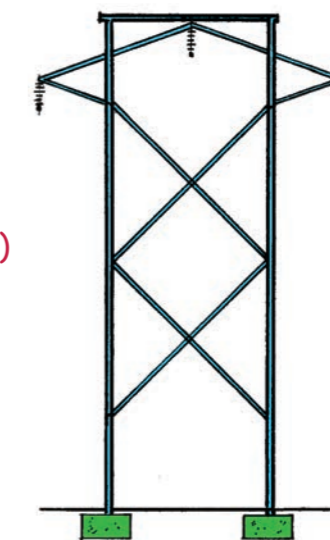
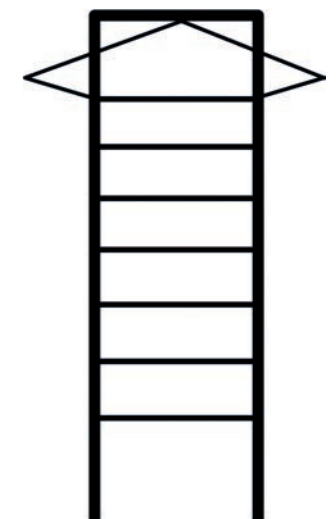
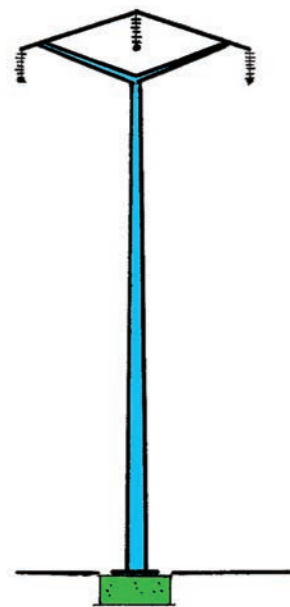

Figure 24
Figure 25
Figure 26
2. Why do you think the pylon in Figure 24 is designed the way it is, and not in the way shown in Figure 25?
The cross bracing (or triangulation) in Figure 24 gives more stability and rigidity than the horizontal bracing in Figure 25.
The pylons in Figures 26 and 28 are solid structures made from concrete. All the other pylons are steel frame structures.
3. What do you think is indicated by the green parts in Figure 24 and Figures 26 to 29?